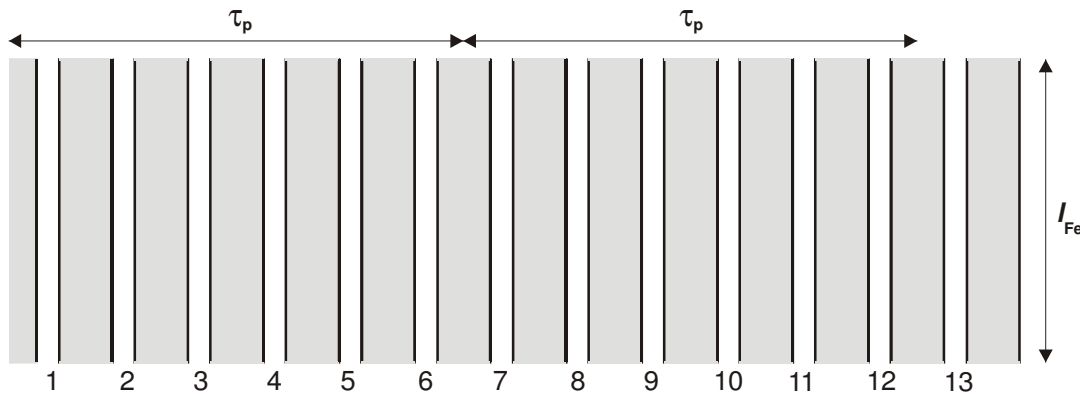

Fig. 1.8-1: Slot plan for one pole pair
4. Sketch the position of coils and their proper connection for phase U for one pole pair. Use the slot scheme of Fig. 1.8.1 !